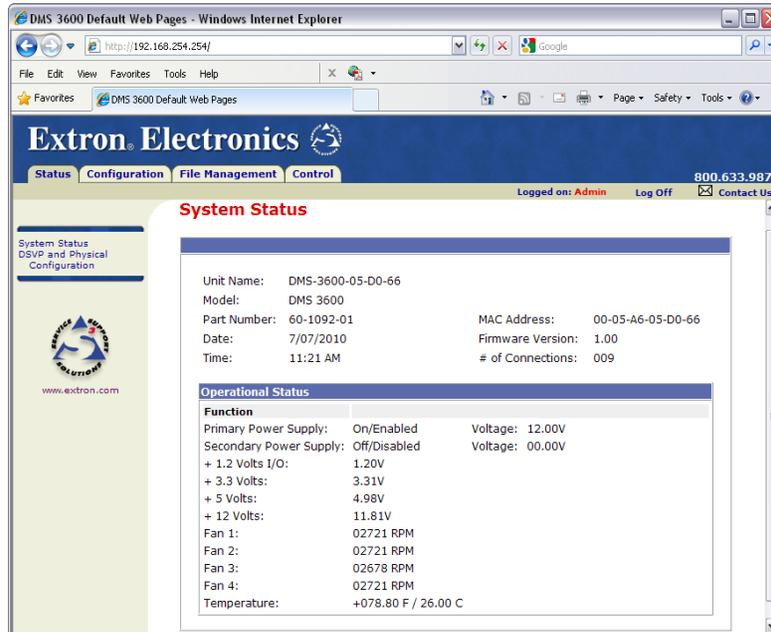

Figure 57. System Status Page
- If neither of the above conditions is true, the switcher downloads the factory-installed default startup page, “**nortxe_index.html**”, also known as the System Status page (see figure 57, on the next page).
The **System Status** page (see figure 57) provides an overall view of the status of the matrix switcher, including individual voltages and the serial port status (if applicable). The **System Status** page is the default page that the switcher downloads when you connect to the switcher. Access the System Status page from other pages by clicking the **Status** tab.